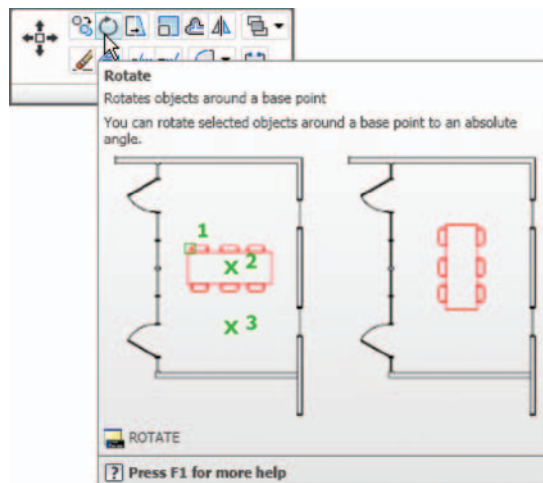

Fig. 5.26 The Rotate tool icon from the Home/Modify panel
2. Call **Rotate** – *left-click* its tool icon in the **Home/Modify** panel (Fig. 5.26), *pick* its tool icon from the **Modify** toolbar, *pick* **Rotate** from the **Modify** drop-down menu, or *enter* **ro** or **rotate** at the command line. The command line shows: